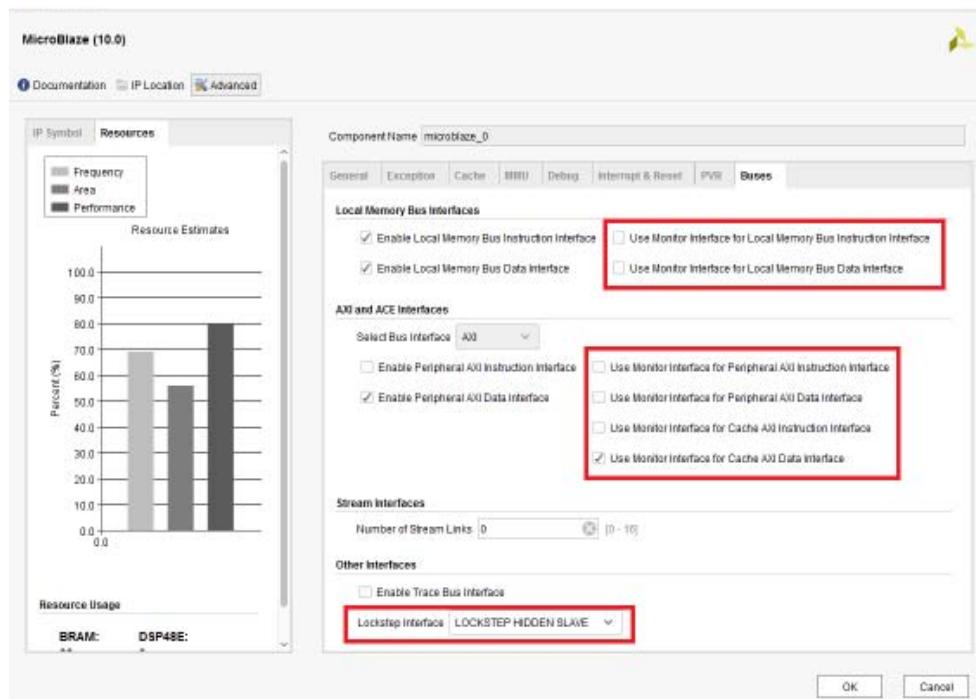

Figure 4-13: MicroBlaze Configuration Wizard Buses Page
- **Enable Local Memory Bus Instruction Interface:** Enables LMB instruction interface. When this instruction is set as shown in Figure 4-13, the Local Memory Bus (LMB) instruction interface is available.